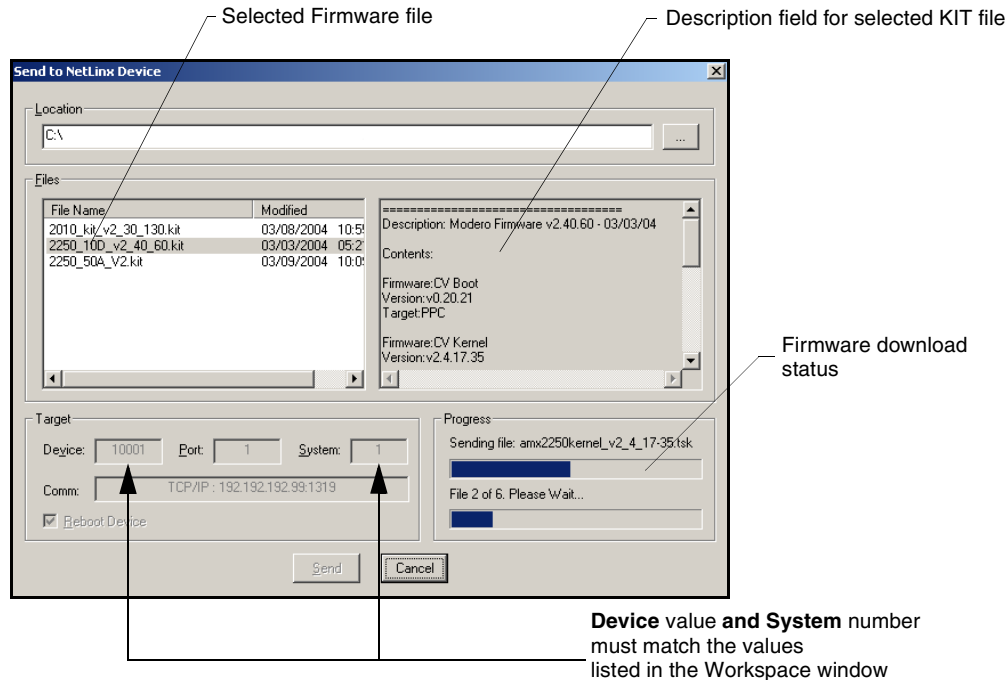

FIG. 98 Send to NetLink Device dialog (showing Modero firmware update via IP)
6. From within Studio, select **Tools > Firmware Transfers > Send to NetLinX Device** from the Main menu to open the Send to NetLinX Device dialog (FIG. 98). Verify the panel's System and Device number values match those values listed within the System folder in the **OnLine Tree** tab of the Workspace window.
7. Select the panel's KIT file from the **Files** section (FIG. 98).
10. Click **Send** to begin the transfer. The file transfer progress is indicated on the bottom-right of the dialog (FIG. 98).